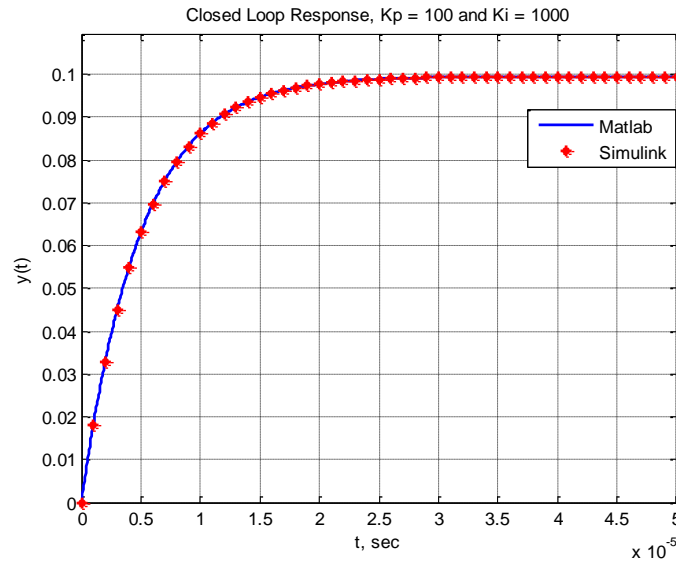

Figure 8: MATLAB and Simulink Results for closed loop control
7. At this point you have results from both Matlab (t, yo) and Simulink (ts, ys). Modify your m-file to plot both of these results on the same graph. The plot should have two different line types and colors, grid, the axes labeled and a descriptive title. See Figure 8 for an example of the system output.
8. Now, generate the MATLAB and Simulink results for each of the controllers in PARTS II, III and IV. Make sure each plot has a descriptive title with the controller gains similar to Figure 8, axes labeled, grid, and distinct markers for MATLAB and Simulink results. You must include all six graphs in your lab memo submission.